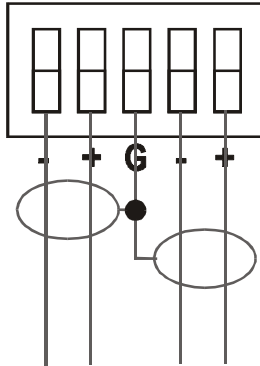

Figure 4: Connecting the Balanced Stereo Audio Output
- A balanced output connection, see Figure 4